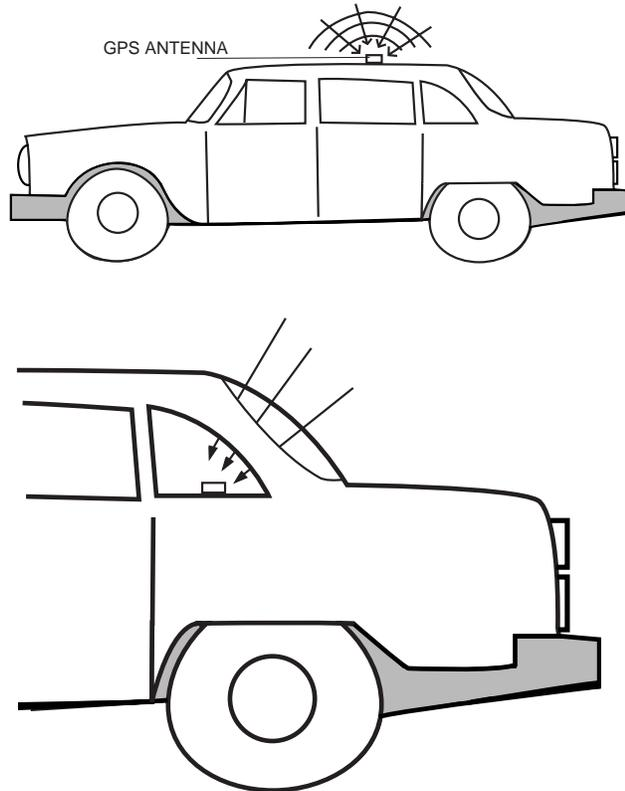

Figure 2 – Optimum GPS antenna positioning on a vehicle.
1. Mount the GPS Antenna in the vehicle. The less the cable is wrapped and bound together, the better it will perform. Place it on the roof, or on the dash, or rear panel where it has a good view of the sky (greater than a 90° angle view of the sky -- see Figure 2).